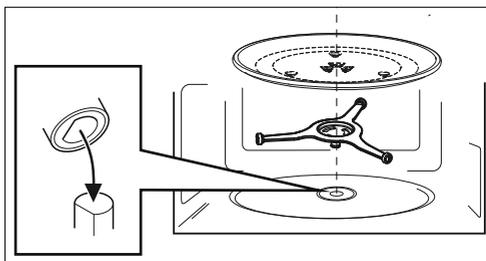

Fig. 4: Inserting rotary star and turntable plate
- ▶ Then place the turntable plate in the centre of the rotary star (see Fig. 4) so that the webs of the turntable plate are between the recesses on the rotary star.